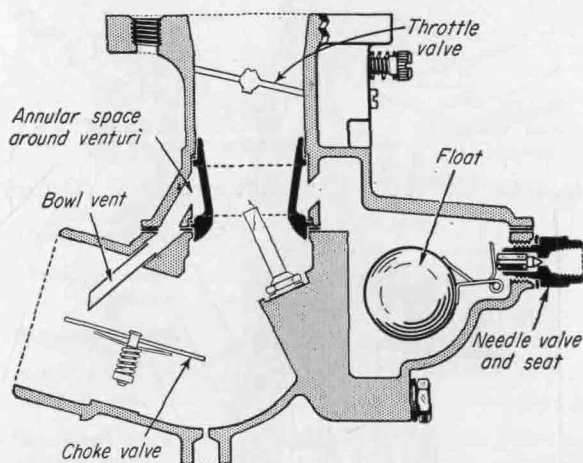

FIG. 5-10. Float circuit in updraft carburetor. (Carter)
1. *Float circuit.* Figure 5-10 shows, in sectional view, the float circuit of an updraft carburetor. The float circuit includes a needle valve actuated by a lip on the float arm, as in other carburetors. As